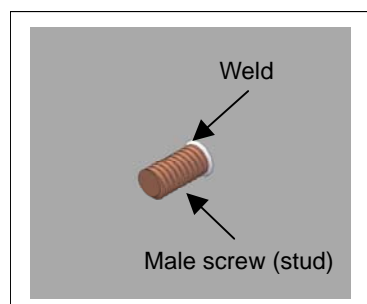
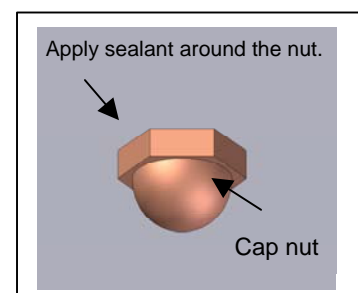

Fig. 4 Welding male screw
Fig. 5 Using cap nut
- 1) Avoid making holes in cabinet wall panels as far as possible; for example, weld male screws (studs) to cabinet wall panels and use nuts with them (Fig. 4). Using cap nuts and applying sealant around them is also effective (Fig 5). When using cap nuts, give consideration to the length of screws used with the cap nuts.
- 2) For the top panel in particular, be sure to observe item 1), because extraneous materials, such as cutting fluid, can easily get on the panel.